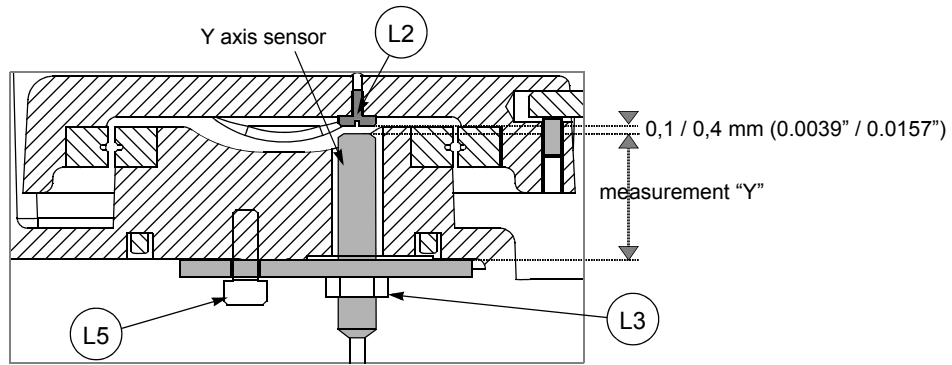

Fig. 54
- Loosen the screw (L5) and remove the sensor plate (fig. 54, page 58).